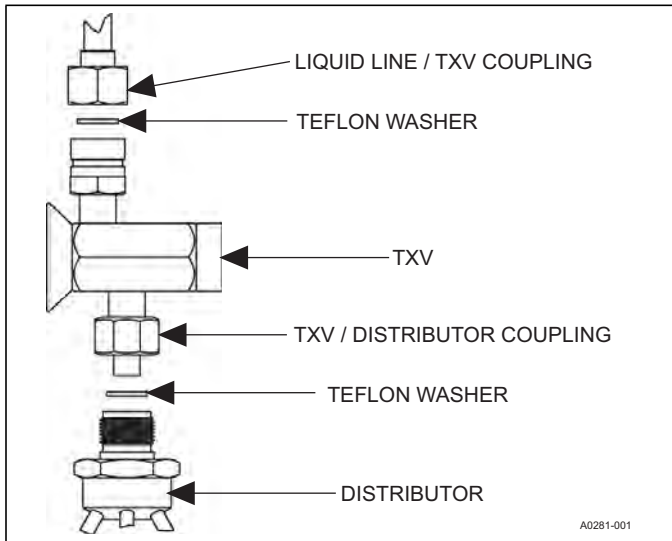

FIGURE 5: TXV Installation
4. Install the thermal expansion valve to the distributor assembly with supplied fittings. Ensure Teflon washer is seated in distributor. Hand tighten and turn an additional 1/4 turn to seal. Do not overtighten fittings. See Figure 5.